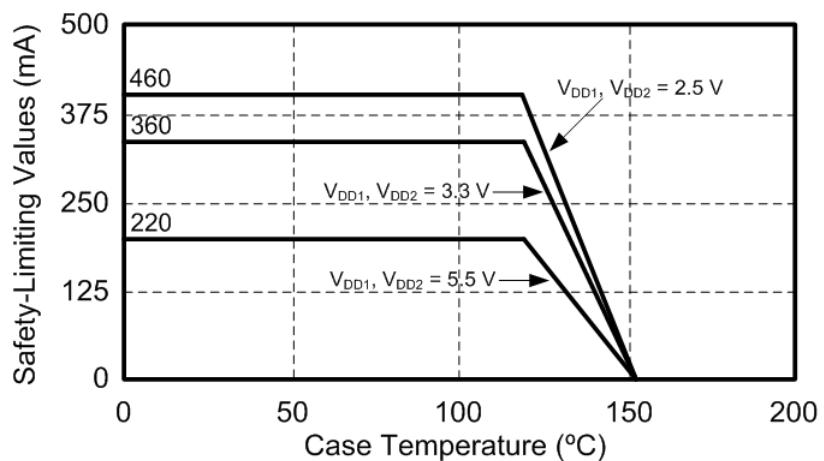
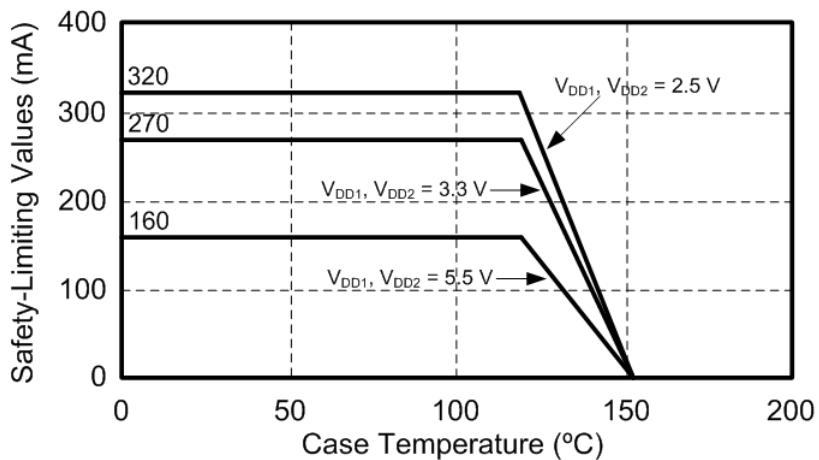

Figure 4.3. (WB SOIC-16) Thermal Derating Curve for Safety Limiting Current
Figure 4.4. (SOIC-8) Thermal Derating Curve for Safety Limiting Current
1. Maximum value allowed in the event of a failure; also see the thermal derating curve in Figure 4.3 (WB SOIC-16) Thermal Derating Curve for Safety Limiting Current on page 26 and Figure 4.4 (SOIC-8) Thermal Derating Curve for Safety Limiting Current on page 26 .